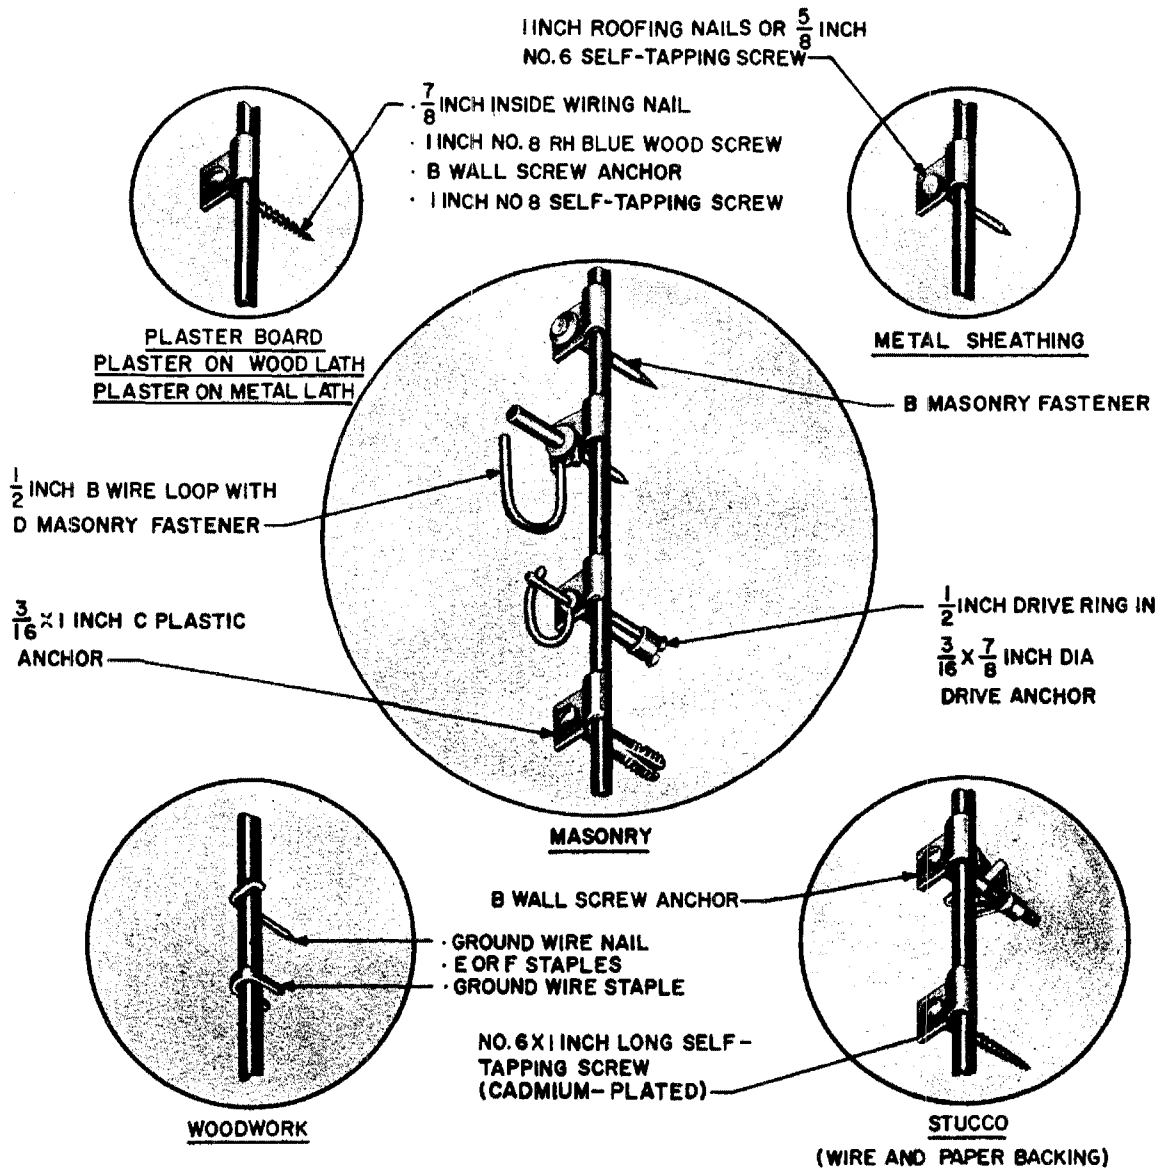

Fig. 1 — Fasteners for Ground Wire
1.02 Fasteners for ground wire and their use are shown in Fig. 1.